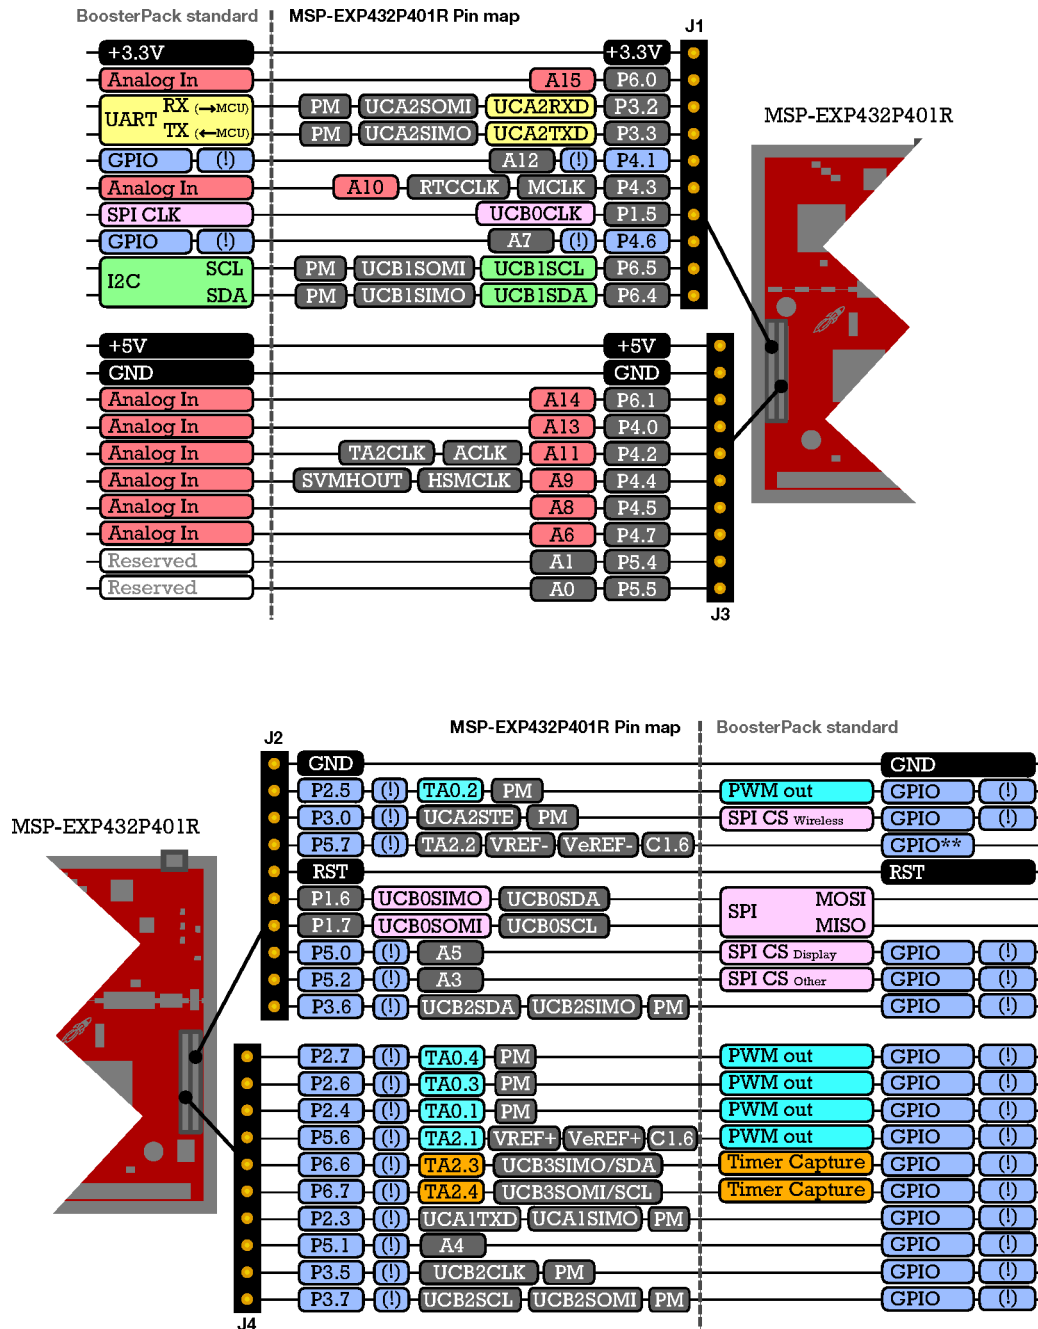

Figure 11. LaunchPad™ Development Kit to BoosterPack™ Plug-in Module Connector Pinout
**Figure 11** shows the 40-pin pinout of the MSP-EXP432P401R LaunchPad development kit.
Note that software configuration of the pin functions plays a role in compatibility. The MSP-EXP432P401R LaunchPad development kit side of the dashed line in **Figure 11** shows all of the functions for which the MSP432P401R device's pins can be configured. This can also be seen in the MSP432P401R data sheet. The BoosterPack plug-in module side of the dashed line shows the standard. The MSP432P401R function whose color matches the BoosterPack plug-in module function shows the specific software-configurable function by which the MSP-EXP432P401R LaunchPad development kit adheres to the standard.